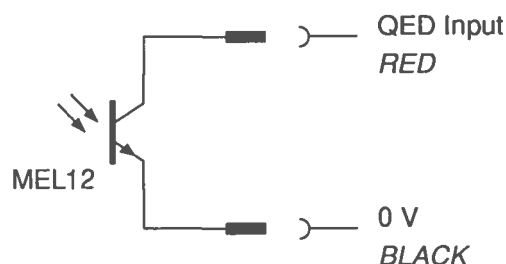

Figure 1 Circuit showing sensor directly across QED input.
- 2 *Sensor* : The sensor type is a photo-darlington transistor because of its large, dynamic range (type MEL12, Maplin product code HQ61R, price £1.61). When MEL12 is connected across the QED input (collector to RED terminal, emitter to BLACK terminal) (Fig. 1), values for the input voltage and response times are as listed :